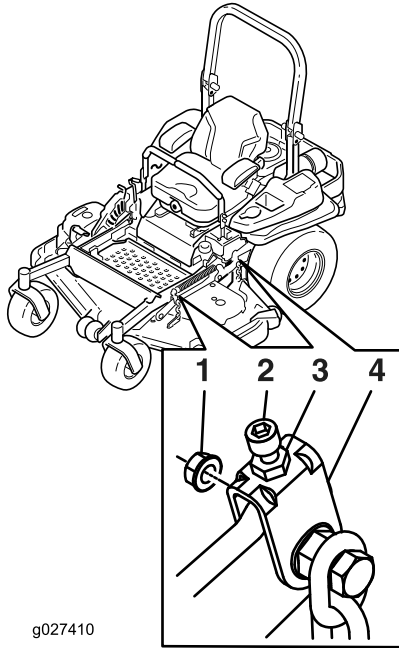

**Figure 91**
8. On both sides of the deck, measure from the level surface to the front tip of the blade (Position A). Ensure the measurement is 7.6 mm (3 inches) (Figure 91).
14. On both sides of the deck, measure from the level surface to the back tip of the blade (Position B). Ensure the measurement is 8.3 cm (3-1/4 inches) (Figure 91).